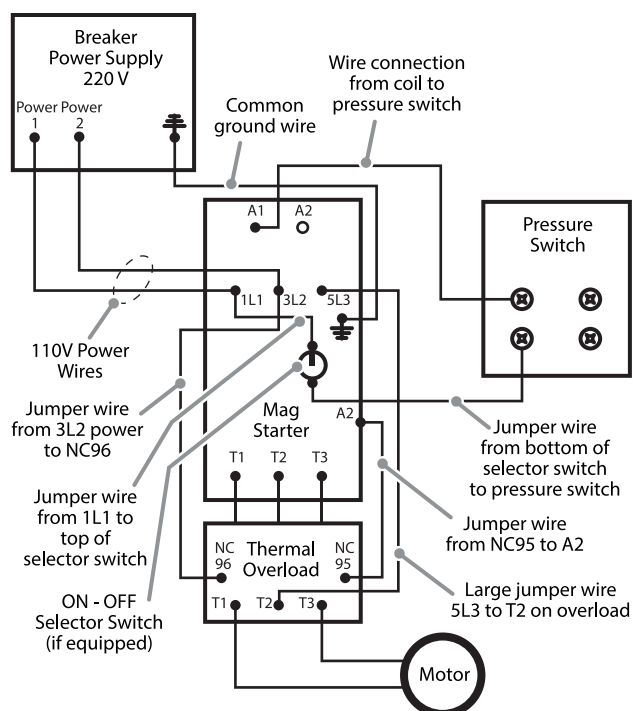

Figure 6: Single Phase Wiring Diagram with magnetic starter
1. Connect first power lead to 1L1. Leave existing jumper wire installed. See Figure 6.